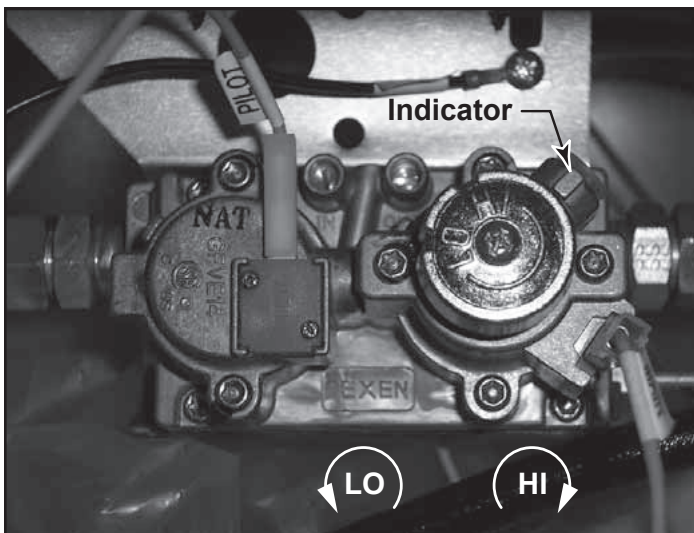

Figure 4.9
- Compare your valve to Figures 4.9.